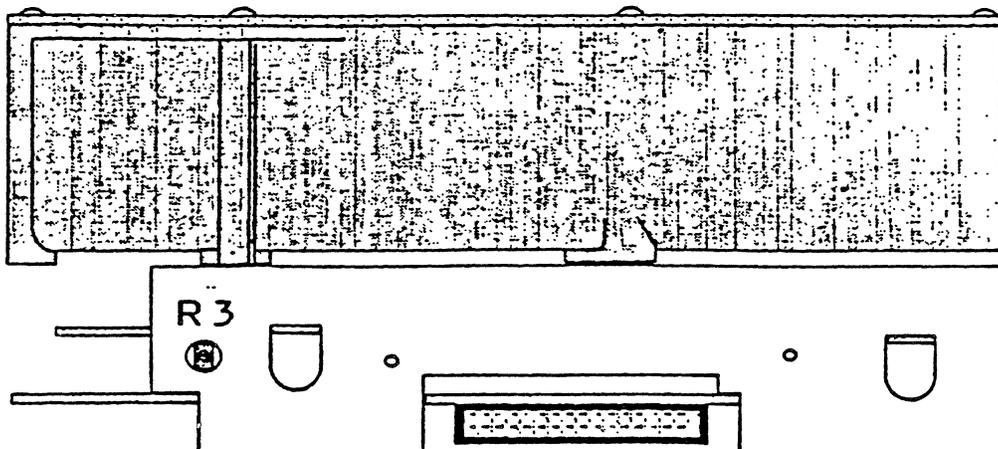

Figure 3 - HDA Side View
4. To check the speed of the HDA, set up the frequency counter to display milliseconds, and connect the input of the frequency counter to TP9 on the analog card. The frequency counter should read 16.67 milliseconds \pm .5%. If it does not, adjust R3, on the side of the HDA (shown in Figure 3) as close to 16.67 milliseconds as possible.